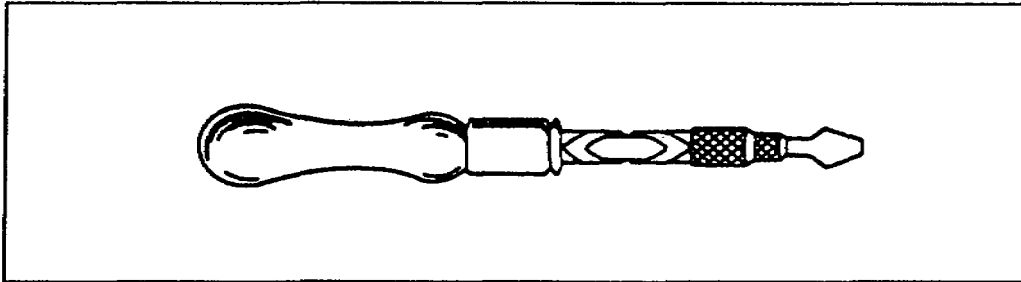

Figure 2-35. Automatic screwdriver
a. Screwdrivers. There are many different types, shaped ends, and lengths of screwdrivers. The automatic screwdriver (Figure 2-35, page 2-18) is a labor and time saver, especially where great numbers of screws are to be driven. The bits for this tool come in different sizes for slotted and Phillips-head screws and can be changed to fit the different sizes of screws. The automatic screwdriver has a